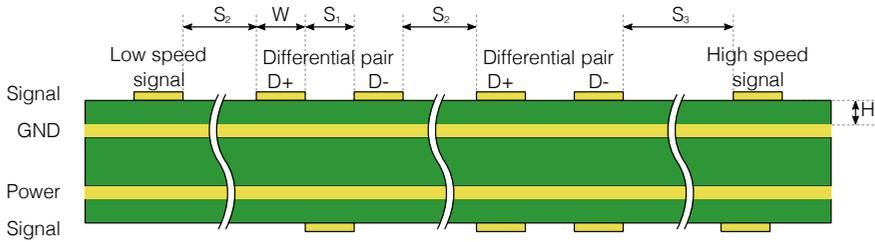

Fig. 23: Spacings of a low speed signal, two differential pairs and a high speed signal
If you are using the USB PHY and/or the MIPI D-PHY*(FB265, TQ128 only)*, then you should route the differential pair marked D+ and D- carefully in order to ensure signal integrity. The D+ and D- lines are the positive and negative data polarities of a high-speed signal respectively. Their high-speed differential nature implies that they must be coupled and properly isolated. The board design must ensure that the board traces for D+ and D- are tightly matched. In addition, the differential impedance of D+ and D- must meet its specifications. (FB265, TQ128 only) We route MIPI D-PHY signals as loosely coupled pairs. Fig. 23 and the table below shows guidelines on how to space and stack the board when routing differential pairs.
- ▶ High-speed clock and periodic signal traces that run parallel should be at least a distance $S3$ away from D+/D- (see Fig. 23 and the table above).
- ▶ Low-speed and non-periodic signal traces that run parallel should be at least S_2 away from D+/D- (see Fig. 23 and the table above).